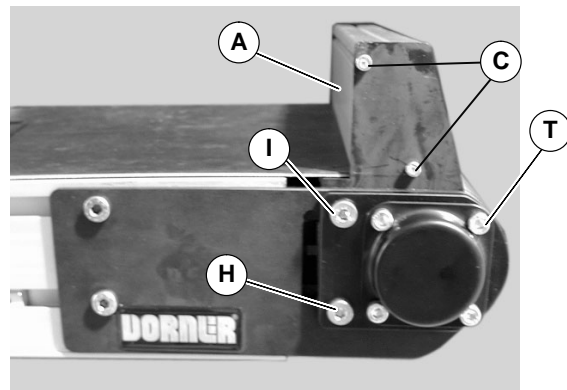

Figure 27
10. Place end stop cross piece (A of Figure 27) on end of conveyor and attach with screws (C) tighten to 50 in-lbs (5.6 N-m).
11. Tighten screws (H and I of Figure 27) to 146 in-lbs (16.5 N-m) and tighten screw (T) on side of conveyor opposite the drive.